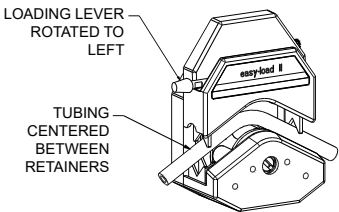

Figure 2 Open & Load
2. Rotate the loading lever to the left to open the pump (see Figure 2 below).